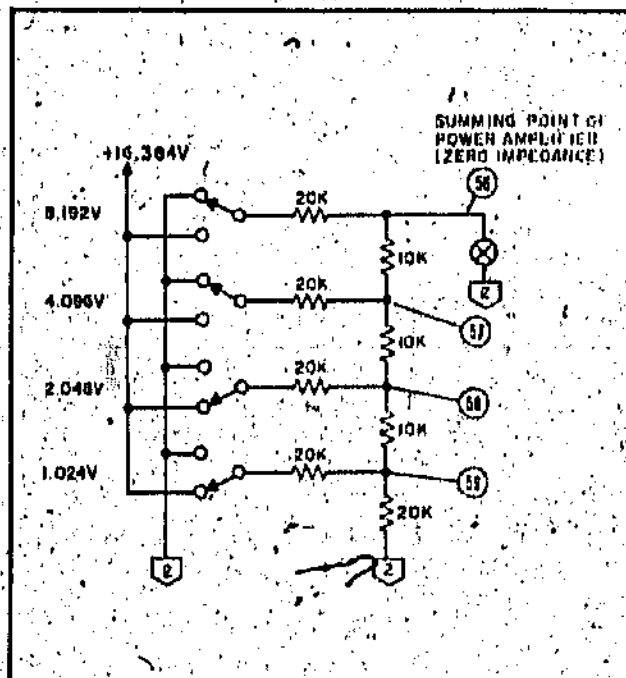

Figure 4-5. Ladder Network, Simplified Schematic
4-79 In the simplified schematic of Figure 4-5, the switching transistors are represented by mechanical switches connecting each of the four rungs in the analog ladder network to either 16.384V or ground (2). Again, the switch positions represent the binary input of 1100, the four most significant bits of the inverted input of 4 volts.
4-82 Potentiometers A3R52 through A3R59 are adjusted to compensate for the conducting resistances of Q2-Q3 and resistance tolerances within the network. With these controls properly adjusted, the total series resistances in each rung are 20K, as shown in Figures 4-5 and 4-6. Notice that the output current of each of the four ladder networks are weighted in powers of 16. Thus, resistor A3R92 divides the output current of that rung by 16, resistors A3R93, R94 divide the next rung output current by 256 and resistors A3R95, R96 divide the output current of the remaining rung by 4096.